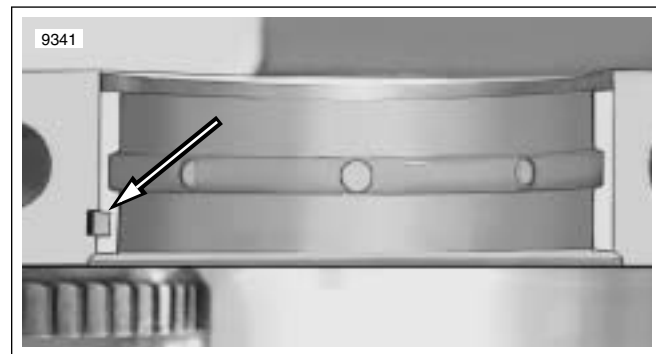

Figure 3-183. Crankshaft Bearing Notch
3. See Figure 3-183. Note the notch in the crankshaft bearing.